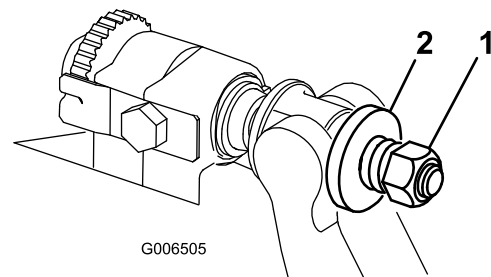

Figure 34
- Tighten spring tension nut until spring is collapsed, then back off 1/2 turn (Figure 34).